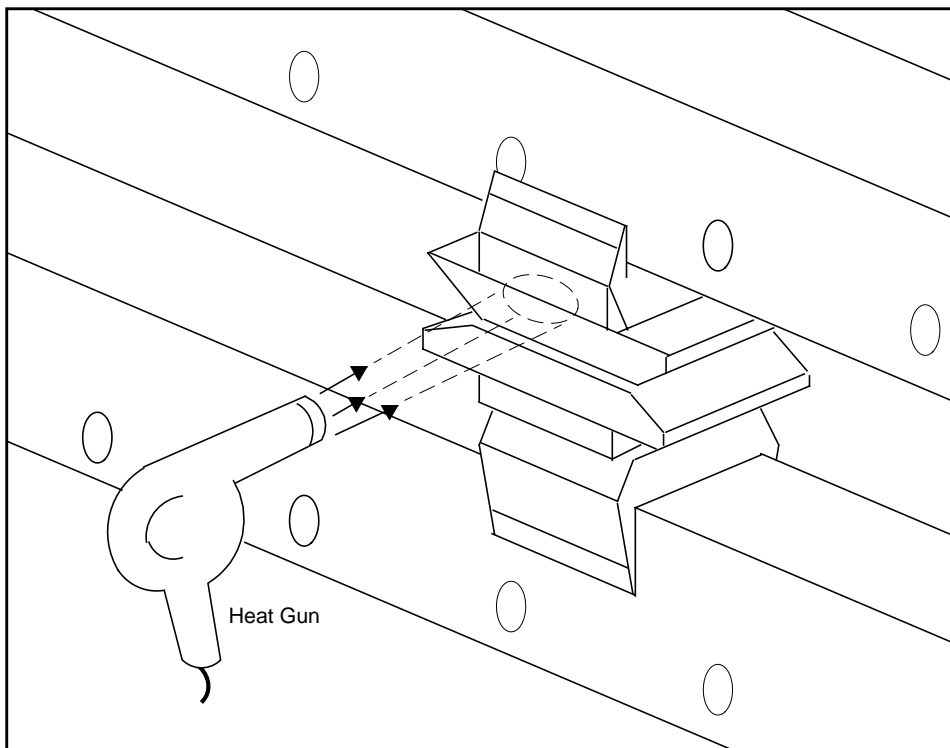

Figure 6-14 Heat Source for Fine Tuning dBWdT
1. Position the heating device in the machine direction at the front of the sensor package, exactly in line with the windows and parallel with the surface. Hold the heat source steady and 12 - 18 inches away from the sensor. See Figure 6-14.